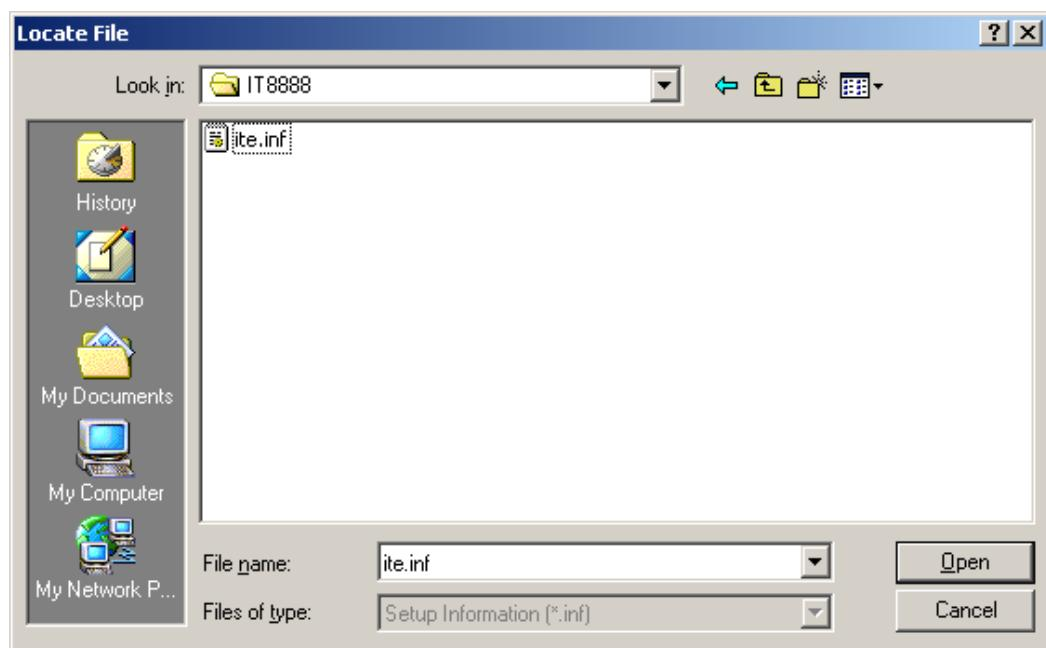

Figure 7-31: Location Browsing Window
Step 19: Select "X:\IT8888" directory in the location browsing window, where "X:\\" is the system CD drive (**Figure 7-31**).